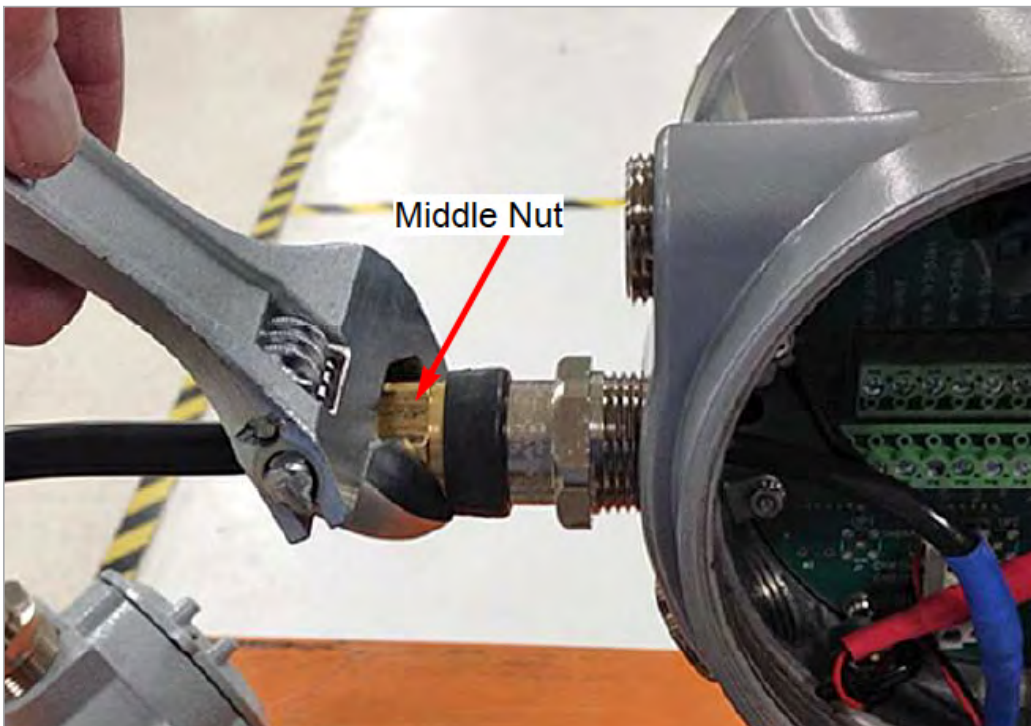

Figure 11: Tightening the middle nut with a wrench
8. Tighten the *Middle Nut* with a wrench, but be very careful not to overtighten the nut or the *Armor Wires* may be broken (see *Figure 11* below).